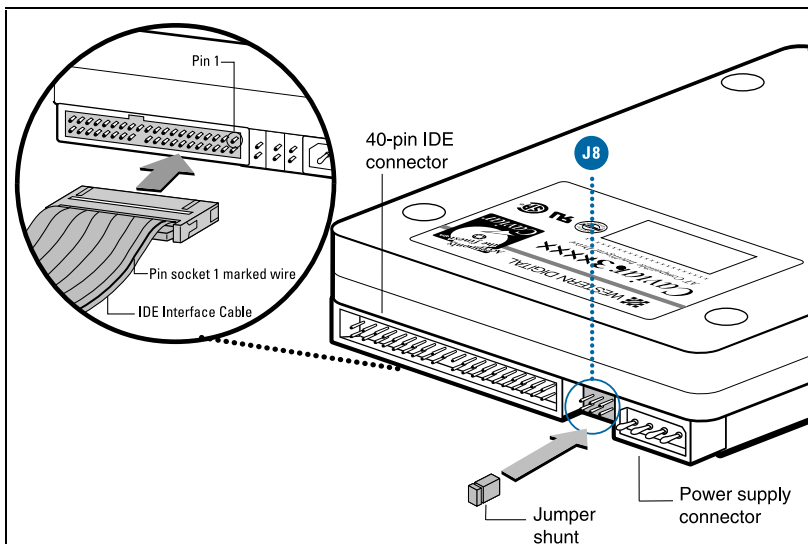

Figure 5-6. Caviar Connector Locations
5. Attach the end of the 40-pin IDE cable from the Caviar hard drive to the IDE connector on the motherboard or controller card. Match pin socket 1 on the IDE cable to pin 1 on the motherboard or controller card. Figure 5-6 is an example of two Caviar drives cabled.